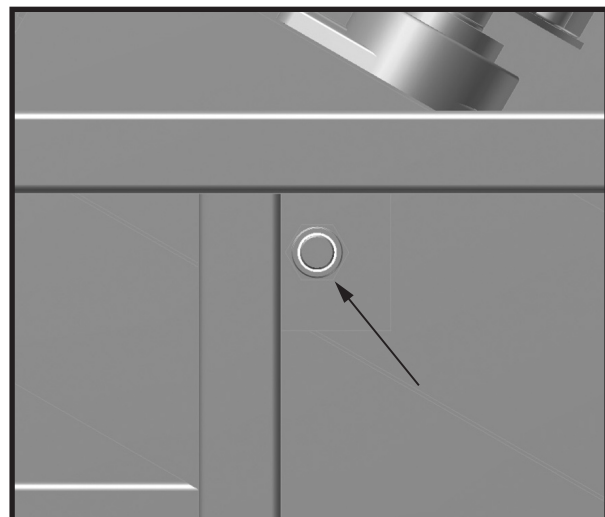

Figure 2.4
- c) Locate tensioners on both sides of MAGNUM™ BALL DISPENSER, tighten each tensioner clockwise approx. 1/8 turn (see figures 2.4).